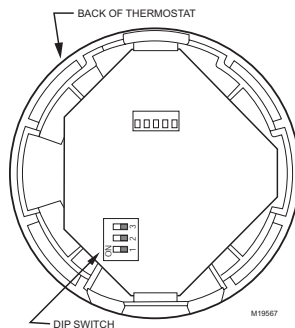

Fig. 4. DIP switch.
- ❑ To adjust the heat cycle rate or the Fahrenheit/Celsius indication, locate DIP switch 1, 2 and 3 on the back of the thermostat. See Fig. 4.